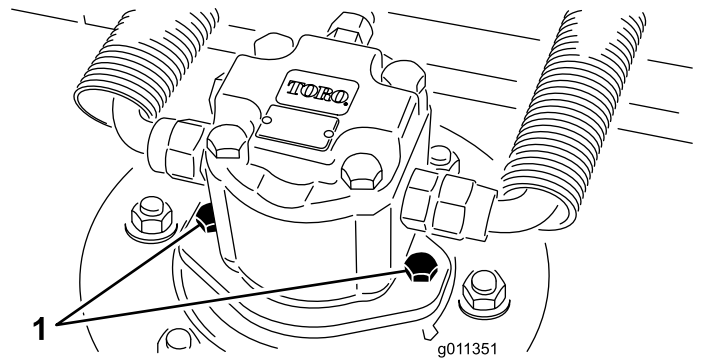

Figure 59
2. Disconnect and remove the hydraulic motor from the deck (Figure 59). Cover the top of the spindle to prevent contamination.
4. Install the hydraulic motor to the deck (Figure 59). Make sure that the O-ring is in position and not damaged.